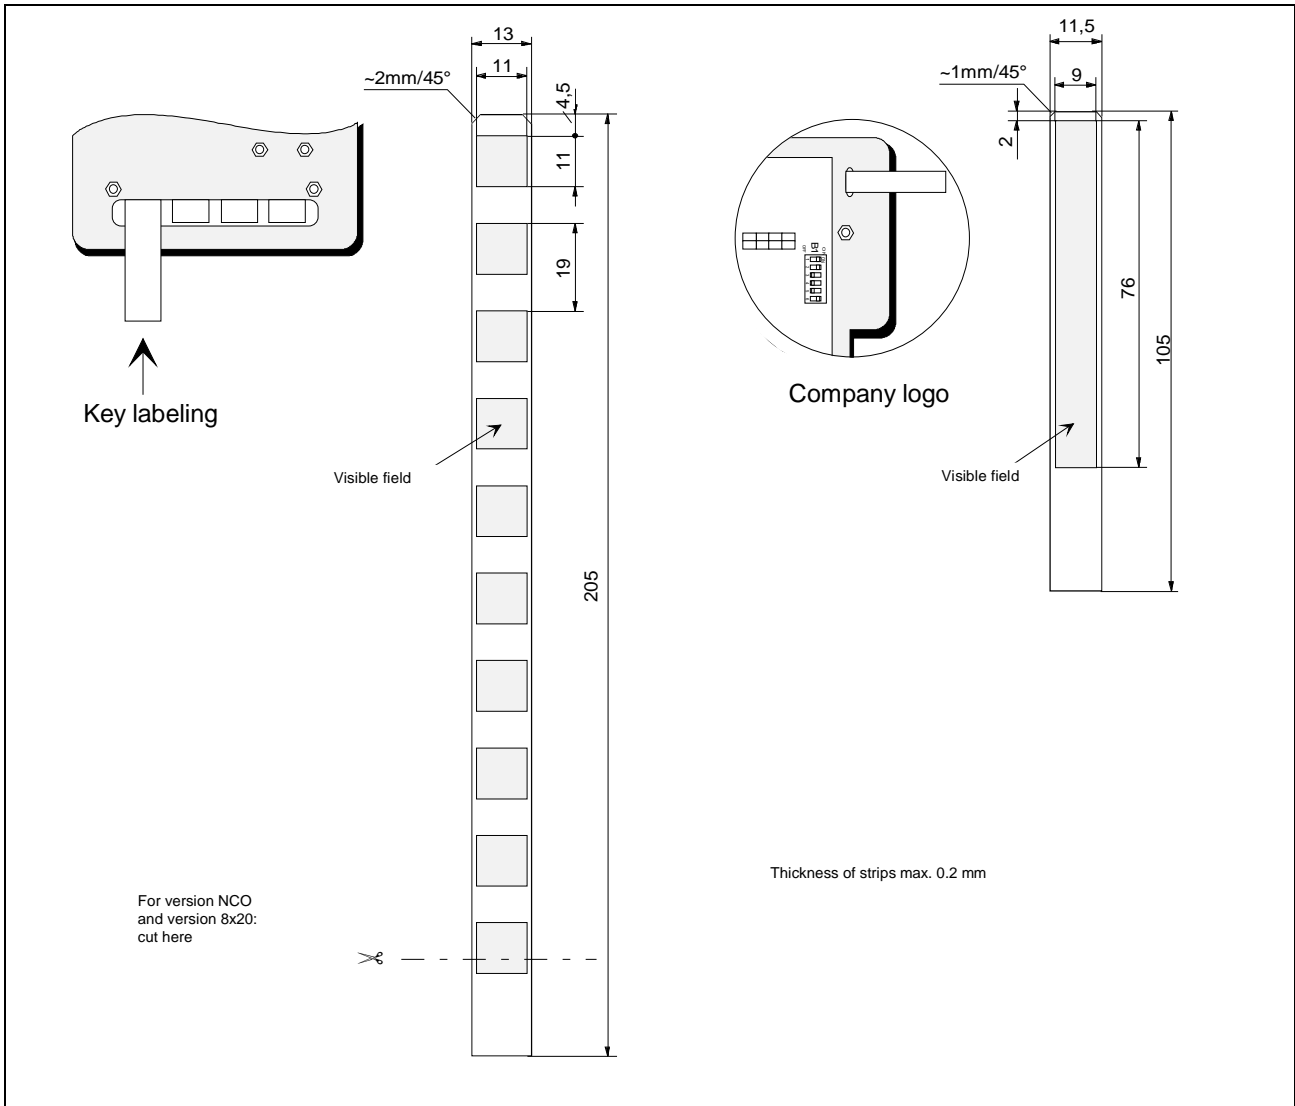

Fig. 5-1: Dimensions of labeling strips
- Fig. 5-1: Dimensions of labeling strips 5-1